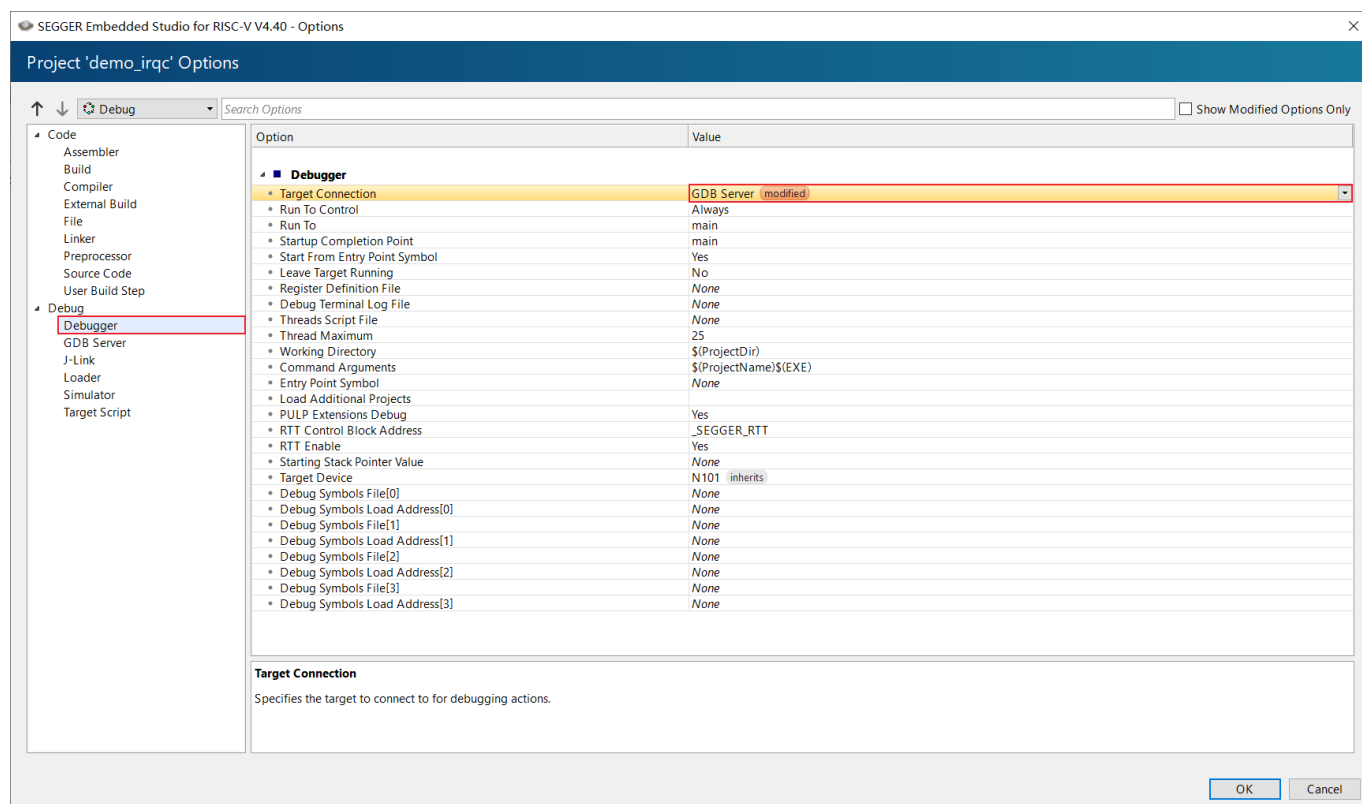

Figure 4-3 Set to Use GDB Server
- Change the “Target Connection” option to “GDB Server” under the “Debugger” column, as shown in Figure 4-3.
- Switch the “Target Connection” option to “GDB Server” under the debugger column, as shown in Figure 4-3.